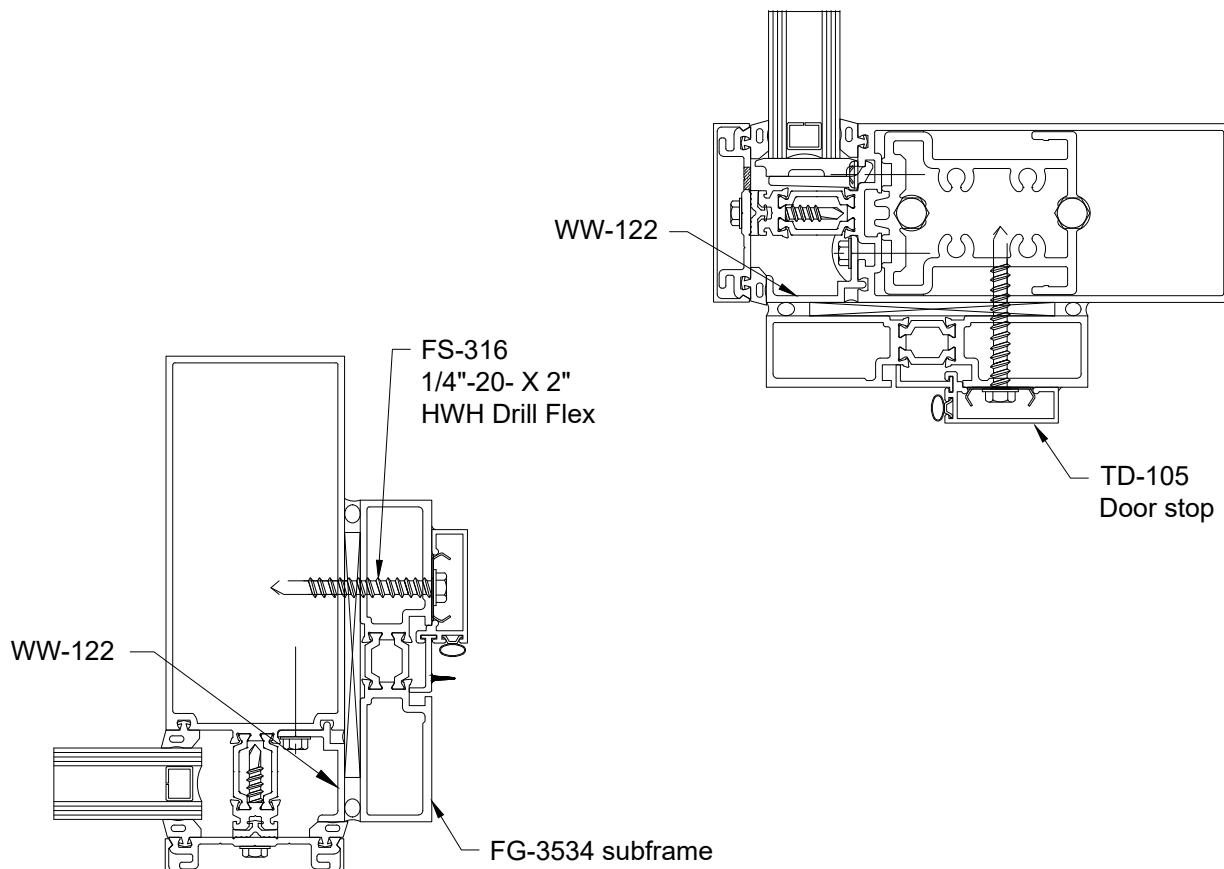

FIGURE 42
C.3.1 Attach TH-64-01 threshold clip to bottom of each subframe jamb with two (2) FS-256 (#8 x 1-1/2" PRH)
C.3.3 Bed subframes in sealant and anchor to curtain wall framing members with FS-316 (1/4"-20 x 2" Drillflex) at 18" on center. Seal joint between jamb and header subframes. Seal also tops of jamb subframe. **SEE FIGURE 42.**